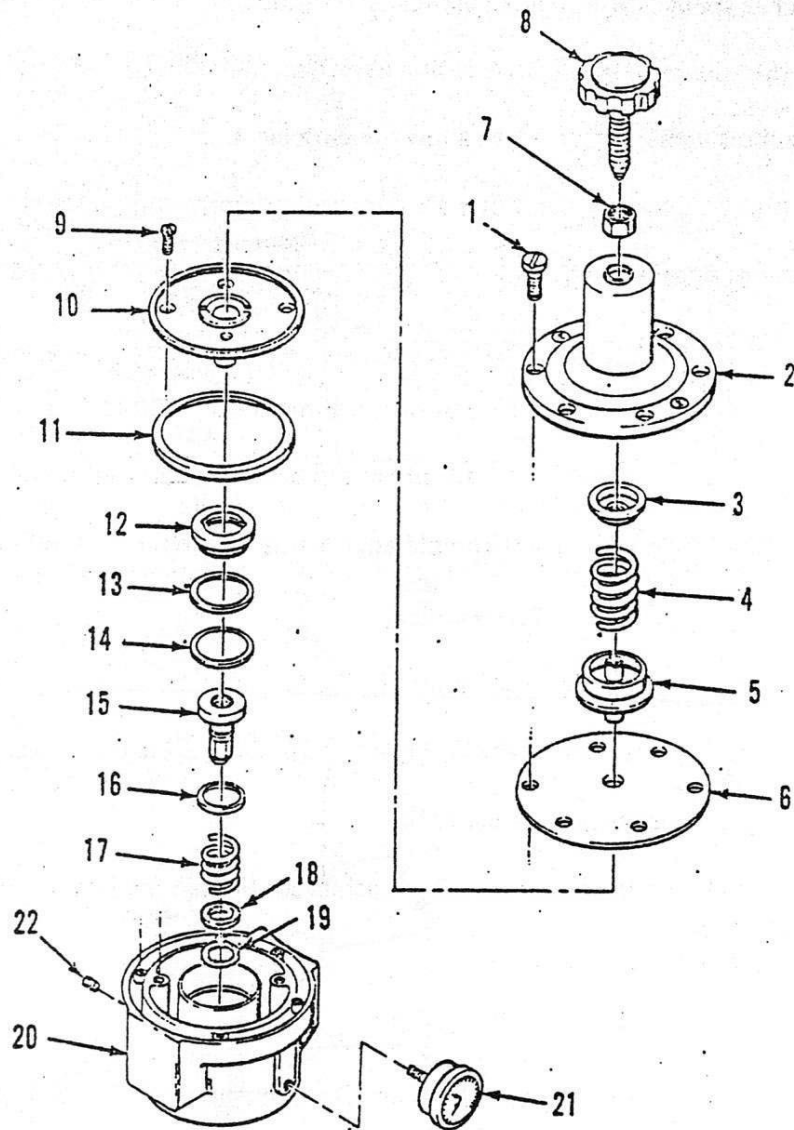

Figure 2-14 Pressure Regulator
- (12). Use the handwheel (8, Figure 2-14) and adjust the delivery pressure by observing the indication on the air pressure gauge (21).
- (13). When the desired setting is achieved, tighten the jam nut (7).